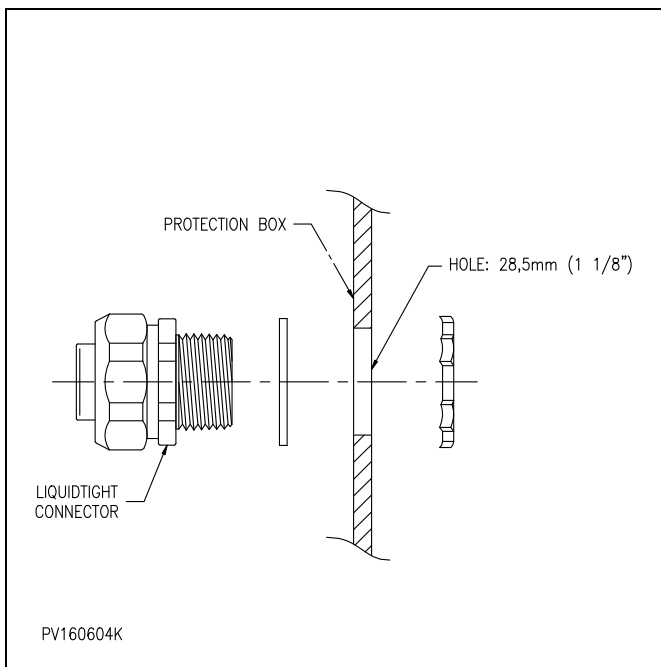

Figure 5 : Mounting the liquidtight connectors on ABS protection box
2. Drill holes and install the the liquidtight connectors. Refer to *Figure 5* : “Mounting the liquidtight connectors on ABS protection box”.